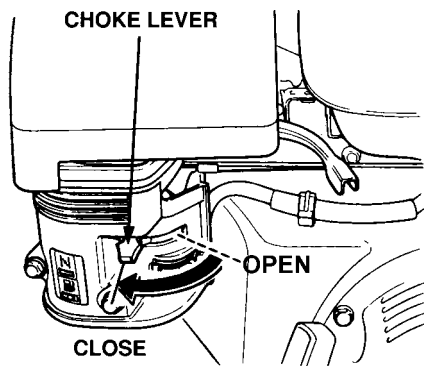

Figure 20. Choke Lever
- Place the **Choke Lever** (Figure 20) in the "**CLOSED**" position.
- If the engine has started, slowly return the choke lever (Figure 20) to the "**OPEN**" position. If the engine has not started repeat steps 1 through 5.